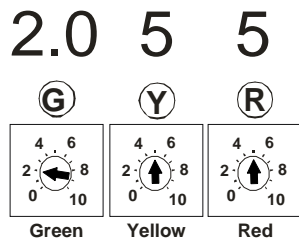
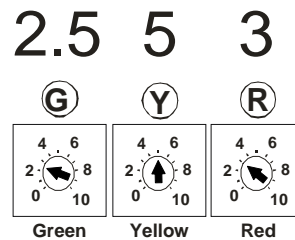

FIGURE 5
FIGURE 6
7. Remove the door from the Fi2000 module to expose the LED's. **NOTE:** The Fi2000 base pot settings come preset from the factory for the Stryker with full exhaust, if a slip-on is used change settings, to those in Figure 6. Verify the wire connections by, (1), turning the ignition on while watching the 3 LED's. They will all light up for a few seconds, and then go off. This is correct. If there are no lights visible, make sure the side stand is up, bike is in neutral, clutch is in and handlebar engine switch is set to run. If there are still no lights visible, re-check that all connectors are fully engaged and the ground wire is connected correctly. (2), after achieving a steady light from all three LED's, start the motorcycle; the green light should now be the only LED on. If all three LED's are still on after start up, verify the injector connectors are correctly attached. Reattach the access door when finished. **NOTE:** Make sure the ignition is turned off before changing any connections.
Your Fi2000 fuel injection module has been tested and preset for best function and rideability on a motorcycle with aftermarket air cleaner and an aftermarket performance full exhaust, settings shown in Figure 5, if your motorcycle is using a slip-on exhaust, please change to the settings to those in Figure 6. The Fi2000 does however, have 3 important adjustments that allow you to tune the module for optimum performance, especially if you have performed other changes to your motorcycle. These adjustments also allow you to resolve drivability issues if our stock settings are not exactly right for your bike. Make sure your motorcycle is up to normal operating temperature (15 minutes of riding should be sufficient) before making any adjustments.